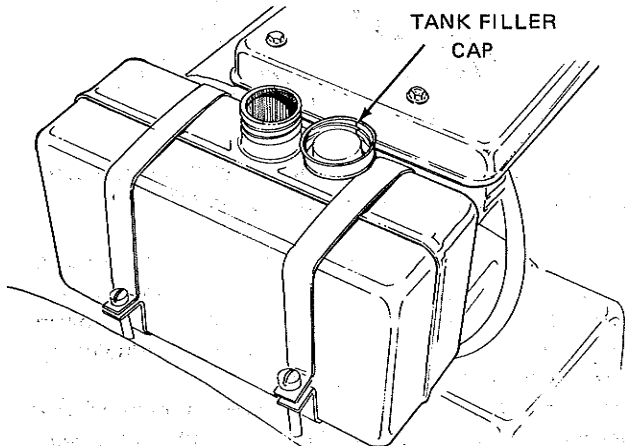

FIGURE 4
2. Remove the fuel tank filler cap (Figure 4) and fill the tank completely with clean, fresh **REGULAR** grade gasoline. Use a can with flexible spout.